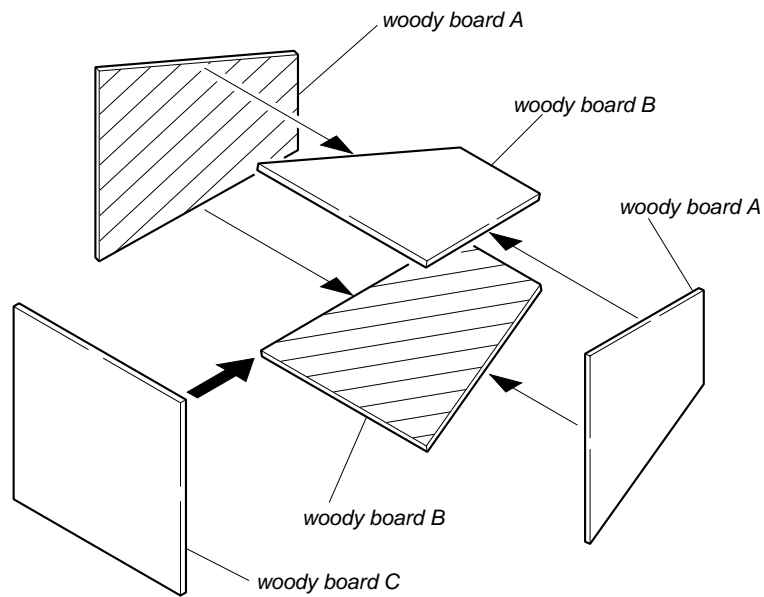

Fig. 6-1-7.
- 4) Assemble so that the black sides and the background paper side of woody board A, B and C are internal. (Fig. 6-1-7.)